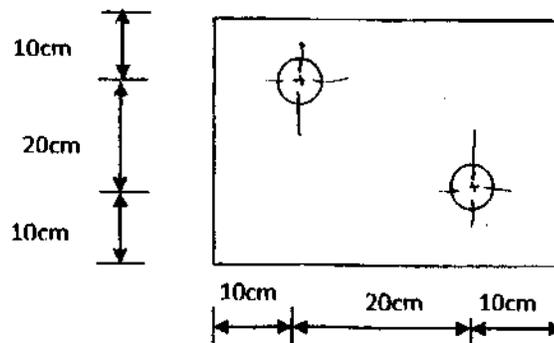

Fig.1
- b) Fig.1 is a PTP job. Write the ATP geometry and motion statements necessary to perform the drilling portion of this job. Assume suitable dimensions. **10**